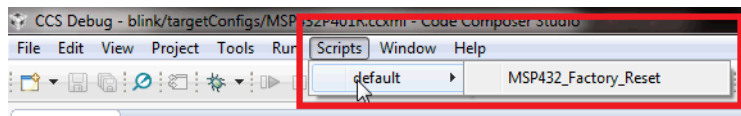

Figure 20. MSP432_Factory_Reset Script
11. Run the following script to return the device back to factory settings (see Figure 20):